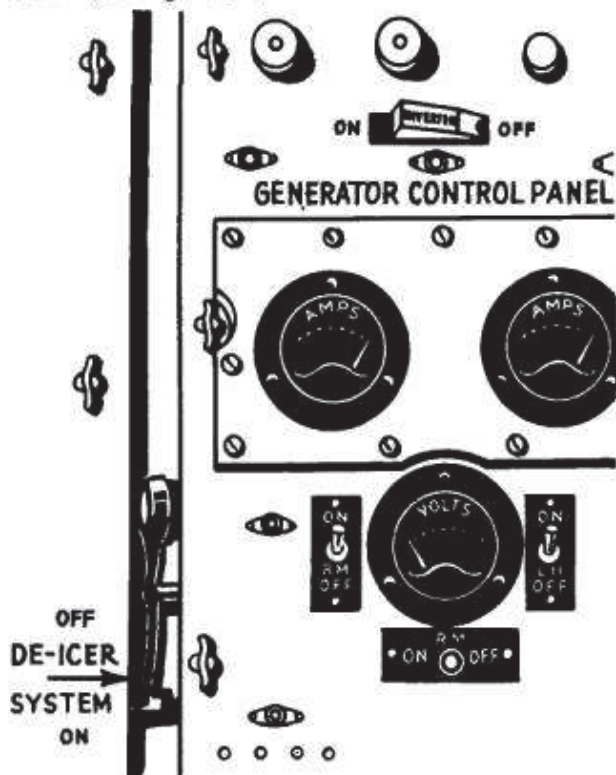

Figure 38 — Generator Control Panel
- (6) Check to see that generators are turned "ON." (See figure 38.)
- (7) Check to see that main inverter cut-off switch has been turned "ON."
- (8) Check to see that de-icer lever is set to "OFF" position (navigator's compartment). (See figure 38.)